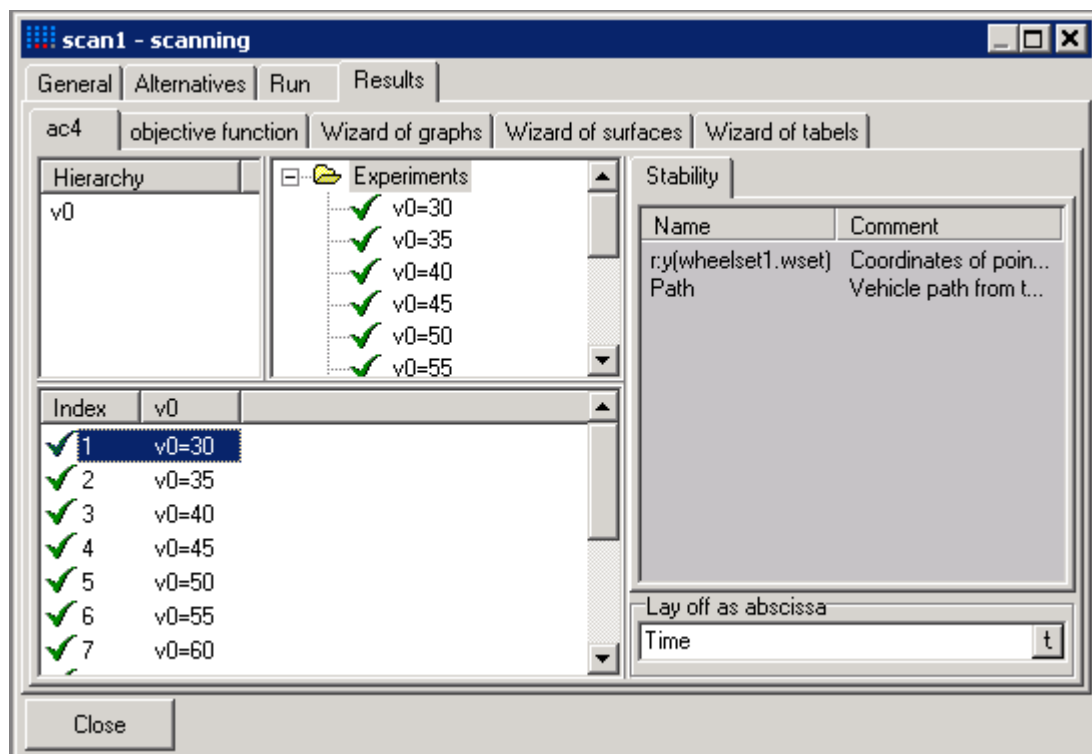

Figure 3.16. Scanning project: results
1. Select the **Results/ac4** tab, see Fig. 3.16.